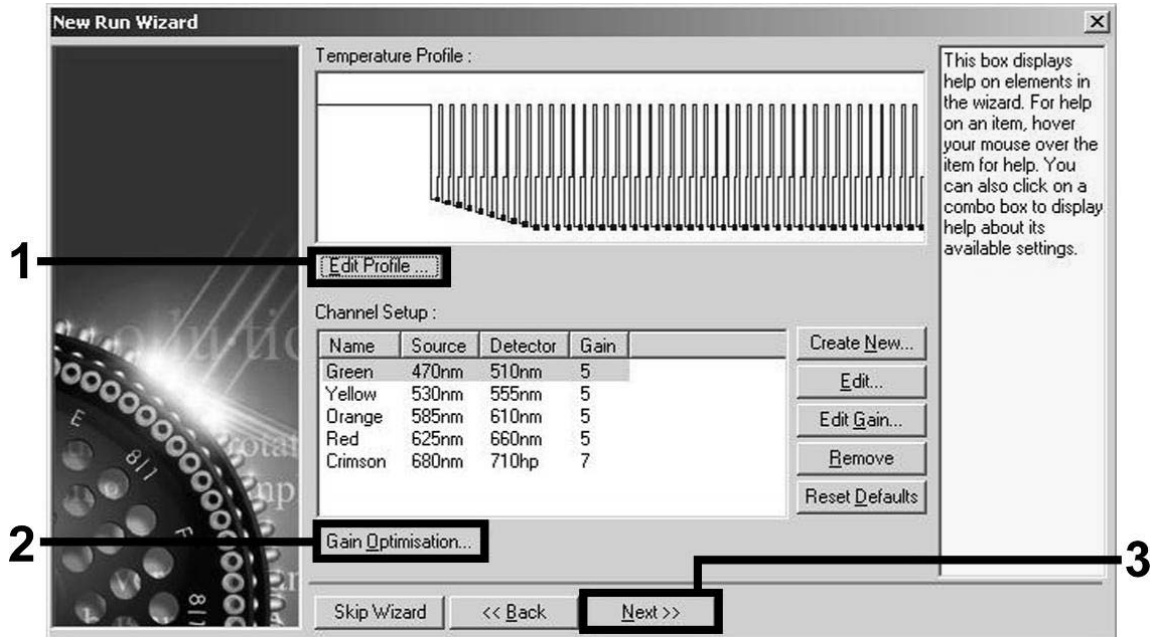

Figure 5. Editing the profile.
- Click the "Edit Profile" button in the next "New Run Wizard" dialog box (Figure 5), and program the temperature profile as shown in Figures 5–7).
9. The detection range of the fluorescence channels has to be determined according to the fluorescence intensities in the PCR tubes. Click "Gain Optimisation" in the "New Run Wizard" dialog box (see Figure 5) to open the "Auto-Gain Optimisation Setup" dialog box. Set the calibration temperature to 65 to match the annealing temperature of the amplification program (Figure 8).